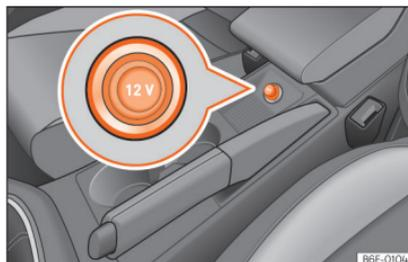

Fig. 136 Front power socket.
- Remove the plug from the socket located in the centre console »» **Fig. 136**.